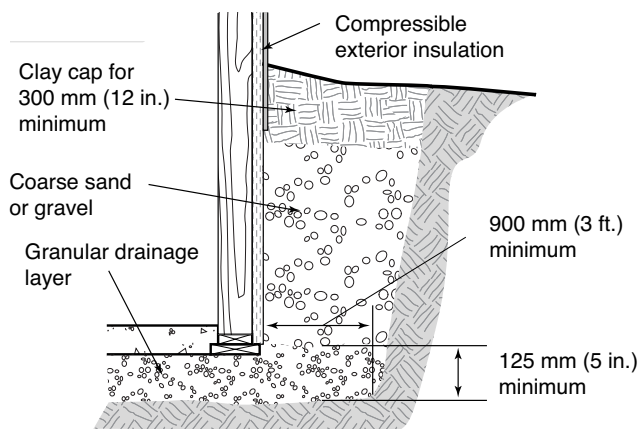

FIGURE 43
- ◆ For swelling clays, backfill with porous material to within 300 mm (12 in.) of grade and 900 mm (3 ft.) out from the wall (see Figure 43). Some pressures may still be transmitted to the wall through the backfill once it has become consolidated. Compressible exterior insulation may provide an additional measure of safety.